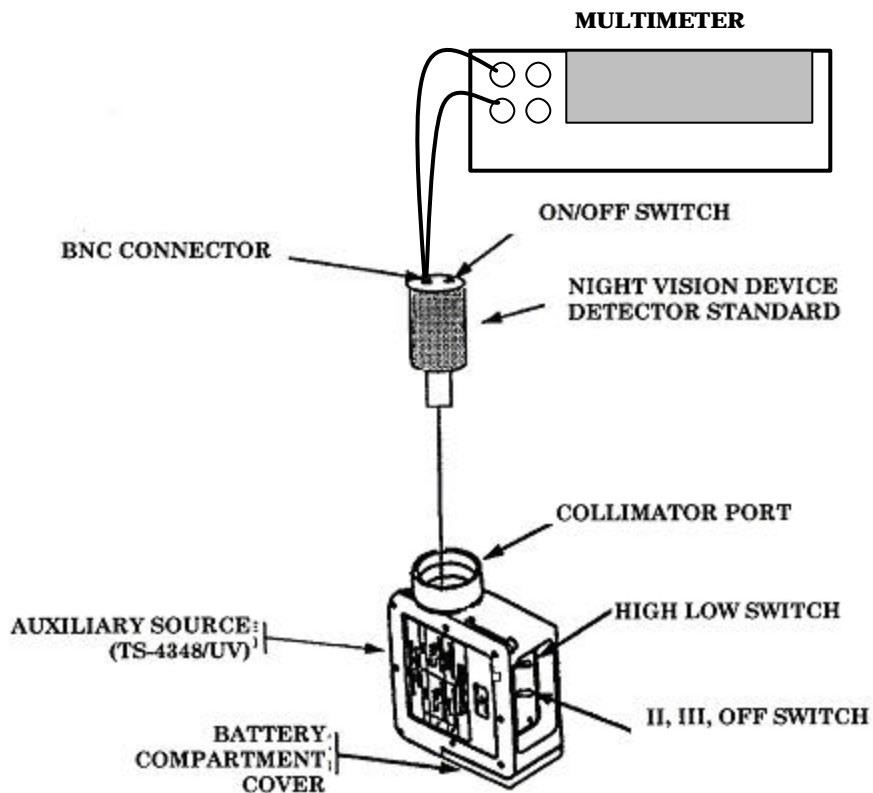

Figure 1. TS-4348/UV controls.
(1) Connect multimeter **HI** and **LO** input terminals to night vision device detector standard **OUTPUT** terminals using BNC CONNECTOR (fig. 1).
(2) Install night vision device detector standard into TI COLLIMATOR PORT (fig. 1).
(3) Turn night vision device detector standard power ON/OFF SWITCH (fig. 1) to ON and allow night vision detector standard to warm up 15 minutes.
(4) Press **OFFSET** pushbutton on multimeter to zero dark level of night vision detector standard.
(5) Set TI **II, III, OFF** switch to **II**. Power indicator will illuminate.